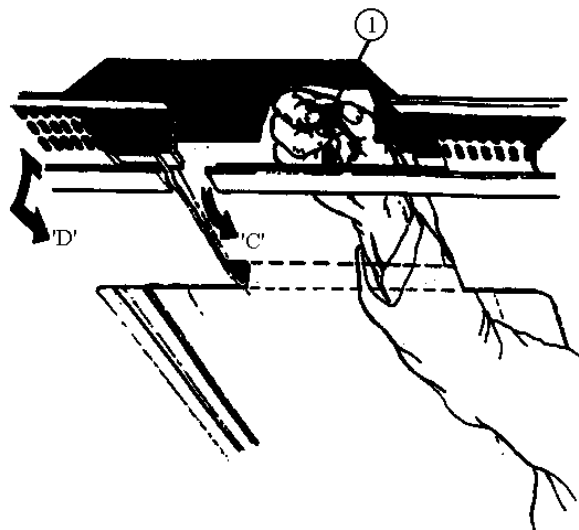

Figure 1: Removal of Ceiling Grille
1. Remove ceiling grilles and clean. (See Figure 1).